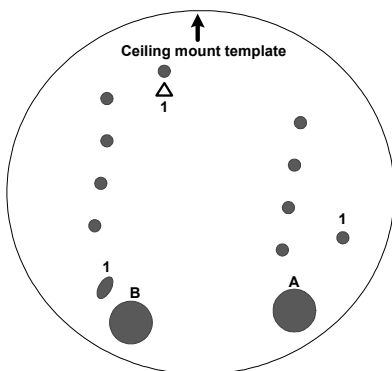

Figure 2-10
- D. Depending on how you want to run the wires (see step 5). Drill the right hole (Figure 2-10) for position A and the left for position B or both if required.